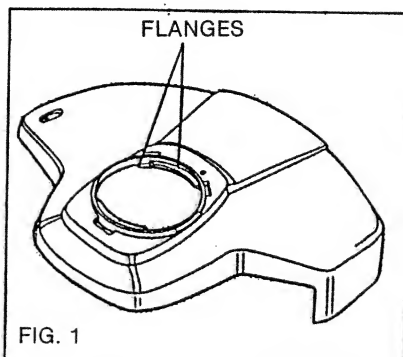

FIG. 1
1. Examine the plastic guard and identify the two flanges shown in Figure 1.